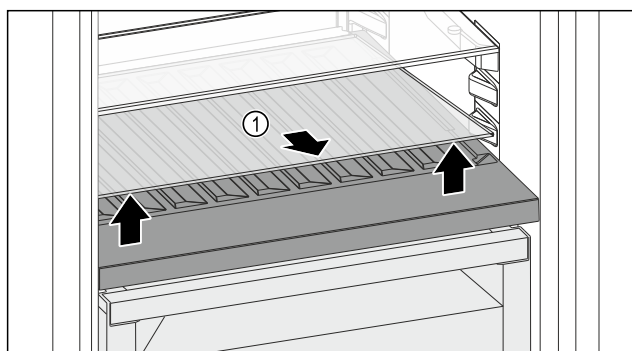

Fig. 86
- Lift the glass shelf Fig. 86 (1) at the front and remove.
- Store the glass shelf Fig. 86 (1) in a safe place outside the appliance.